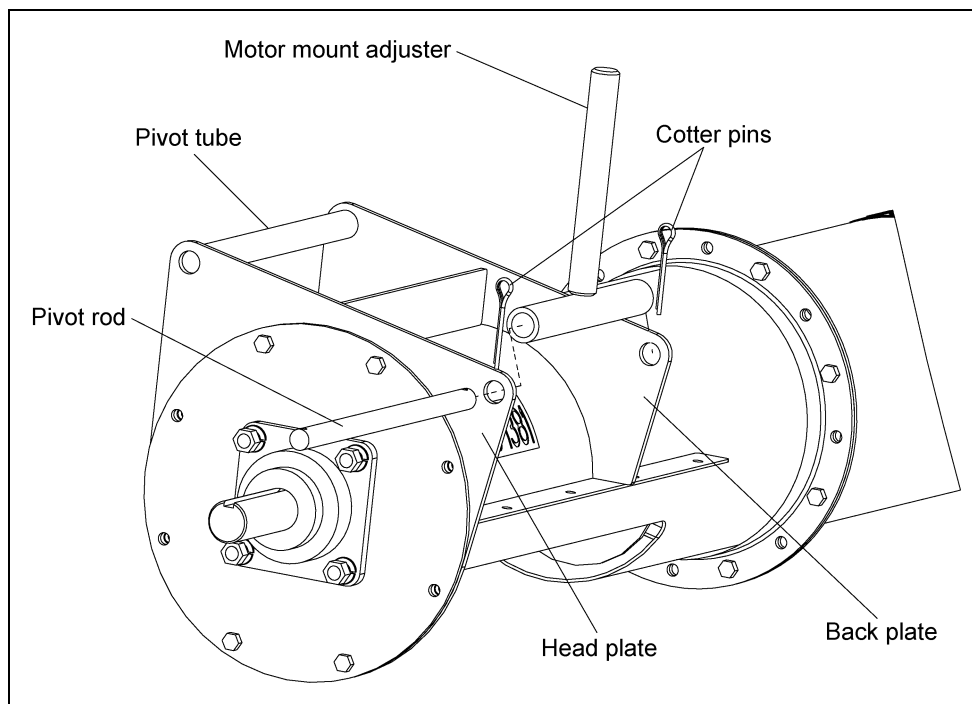

Figure 4J
- B. Insert pivot rod through the tube plates and motor mount adjuster. Secure in place with two (2) $\frac{3}{16}$ " x 2" cotter pins. (See Figure 4J.)